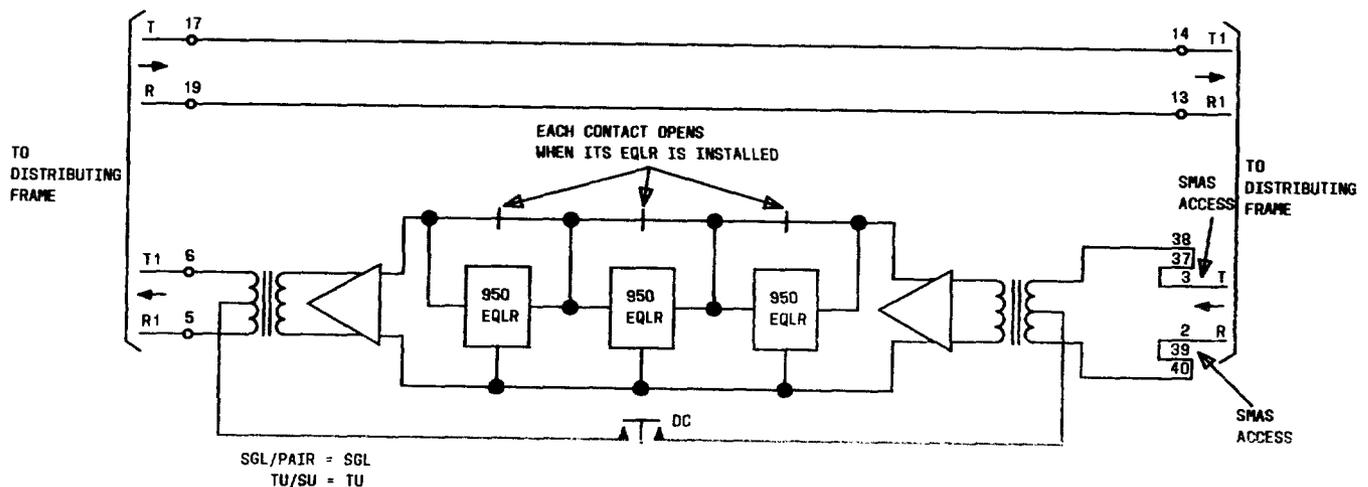

Fig. 2—Block Diagram of Single VFADE
3.01 The J99343SN VFADE is configured like an MFT 4-4 repeater. The block diagram in Fig. 2 represents a single VFADE in a single-module mounting or the transmission unit slot of a double-module mounting. A direct connection is provided by the printed wiring board between input and output terminals in the A-side to B-side direction.